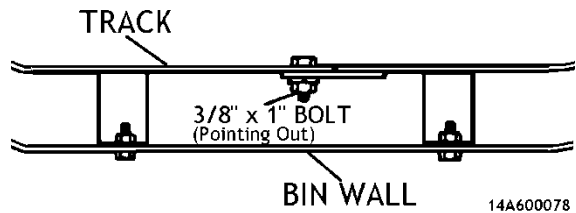

Fig. 5 – Top view of track splice
- A5 Mount remaining track sections using Steps A2-A4, joining track sections together with 3/8" x 1" bolt and 3/8" lock washer and nut. Tighten using 9/16" wrench. See Fig. 5.
B4 Mount remaining track sections using Steps B2-B3, joining track sections together with 3/8" x 1" bolt and 3/8" lock washer and nut. Tighten using 9/16" wrench. See Fig. 5.
C6 Mount remaining track sections using Steps C2-C5, joining track sections together with 3/8" x 1" bolts and 3/8" lock washers and nuts. Tighten using 9/16" wrench. See Fig. 5.